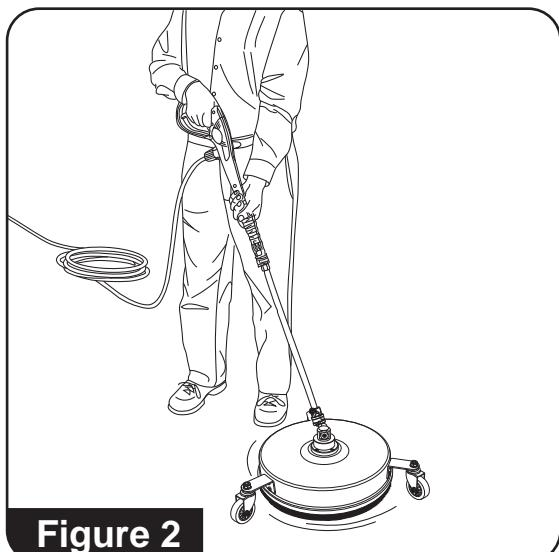

Figure 2
1. Squeeze the trigger and move the surface cleaner back and forth and/or side to side to begin cleaning (**See Figure 2**).